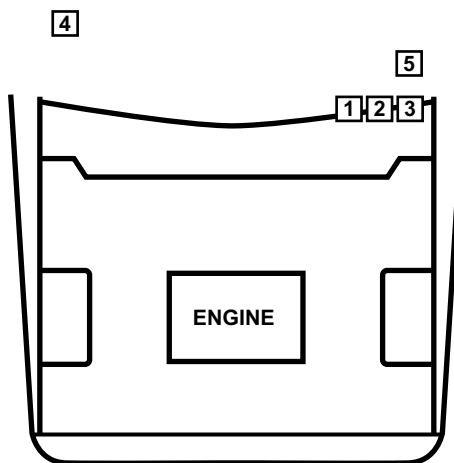

Figure 15-6 SVX common connector locations
- “SVX common connector locations” on page 147 (Table 15-6, Figure 15-6)